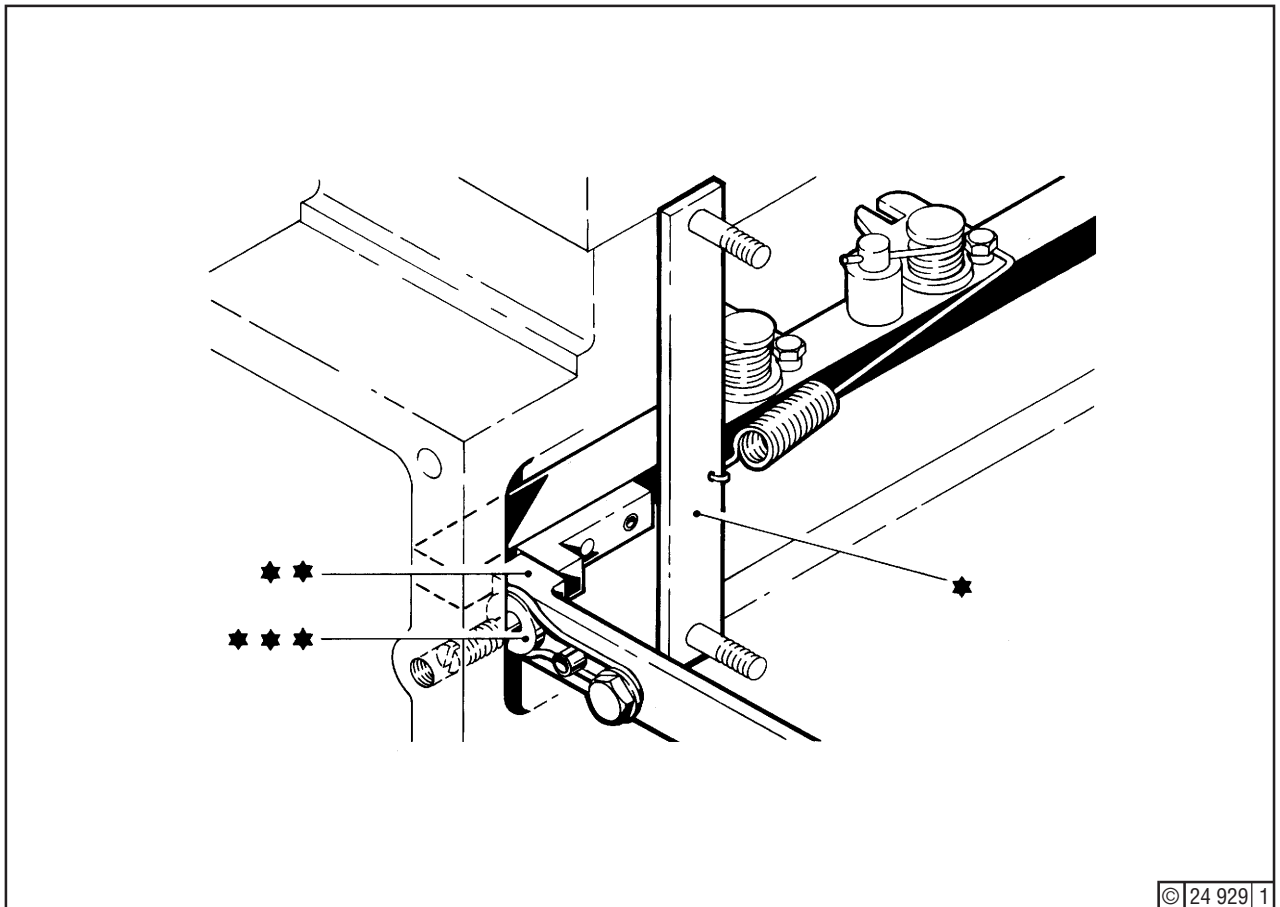
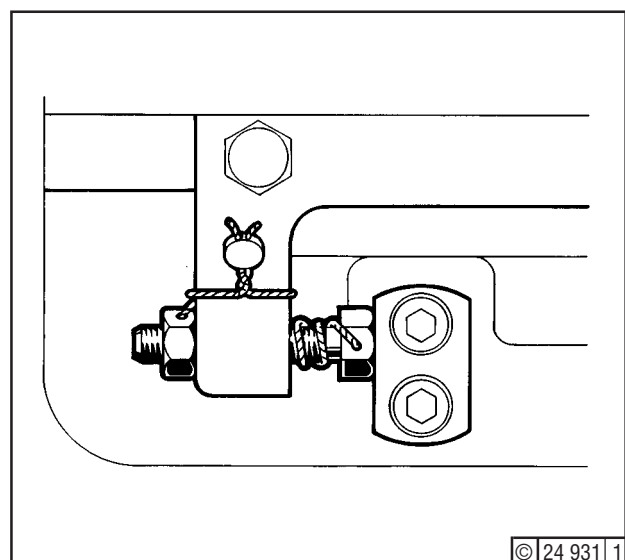

Fig. 7
Fig. 9
5. Use tools (*) - Fig. 7 - to pull control rods of all injection pumps against the gauges (**) contacting check stops (***) at points A18, A19 and A20. Leave tools (*) mounted for the time being.
Then, at the right-hand ends of the links (*) (point A25, A26), adjust the length of the link by means of the eccentric (**) so that the control rods contact the check stops without pressure, with the gauges inserted (see Fig. 7). Insert new cheese-head screws according to tightening specification, see "Specification Data", Section 3.5, line 60. If the setting at the right-hand eccentric is insufficient, rectify at the left-hand eccentric.
7. Remove tools (Fig. 7). Move linkage in the direction "Stop" until one or more stop screws abut at points C12, and C13 (Fig. 9).